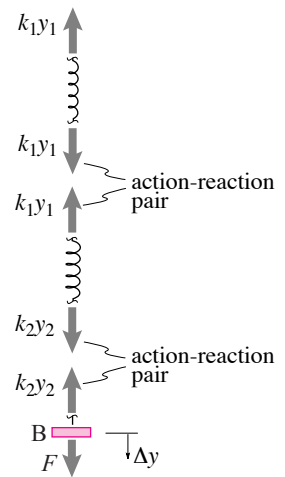

Figure 7.13: Free-body diagrams
- **Case (b):** The free-body diagrams of the two springs are shown in Fig. 7.13 along with that of point B. In this case both springs stretch as point B is displaced downwards. Let the net stretch in spring 1 be y_1 and in spring 2 be y_2 . y_1 and y_2 are unknown, of course, but we know that